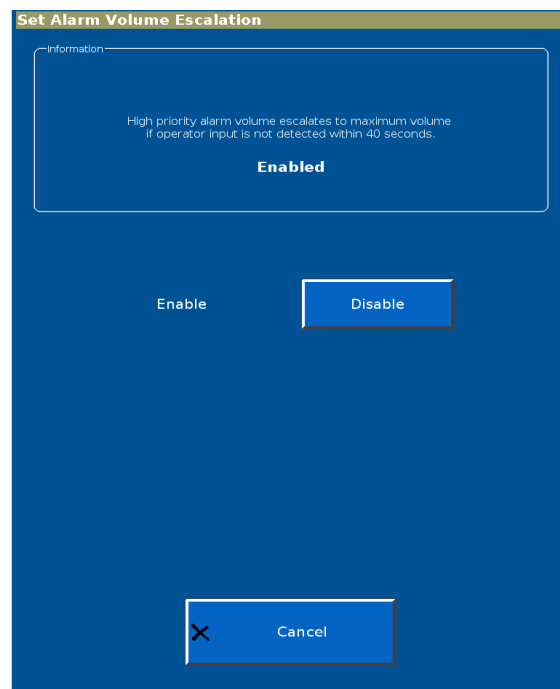

Figure E-10: Set Alarm Volume Escalation
1. From the System Settings screen, select Alarm Volume Escalation to display the Set Alarm Volume Escalation screen (Figure E-10).